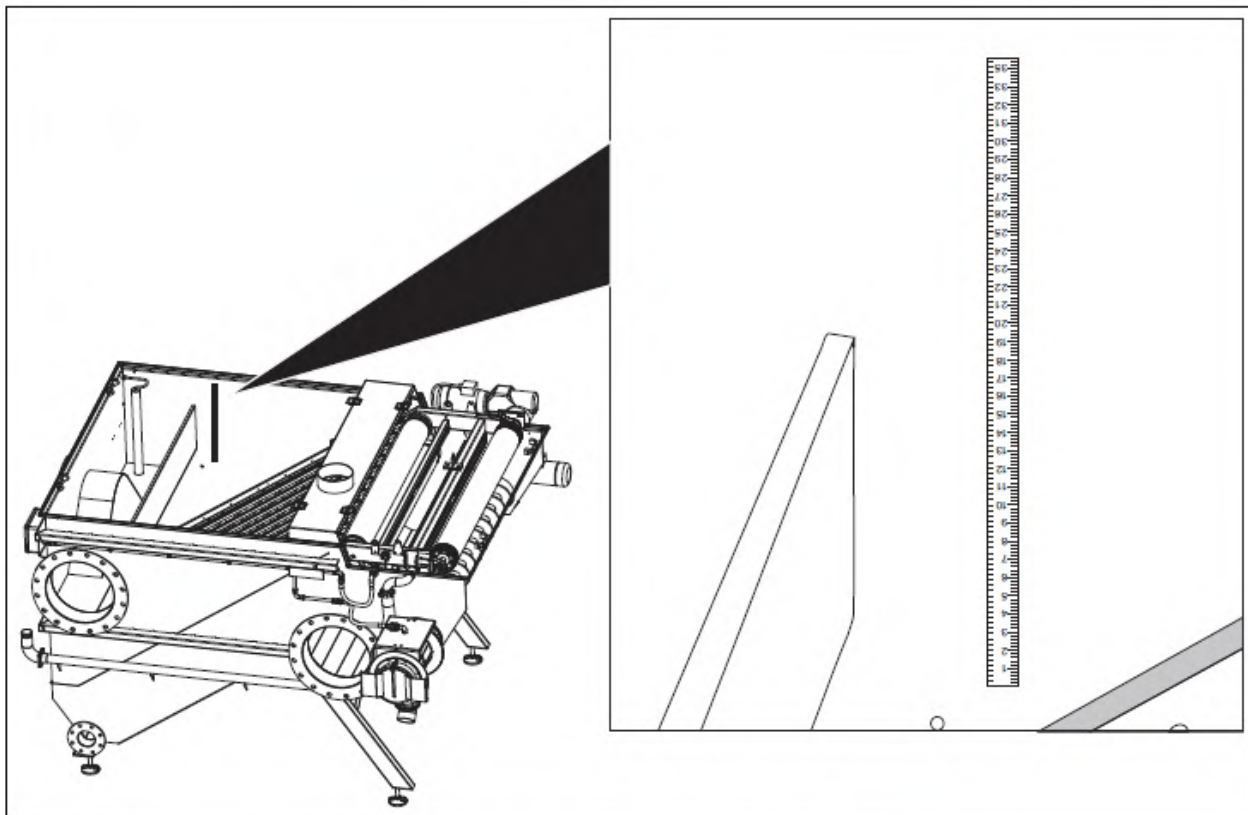

Figure 6 Ruler for Level Measurement
Water levels have the outlet threshold as a reference point zero (0) (Refer to Table 2). A ruler is mounted on the sidewall of the unit to read the actual levels above or below the 0 level. (Refer to Figure 6).